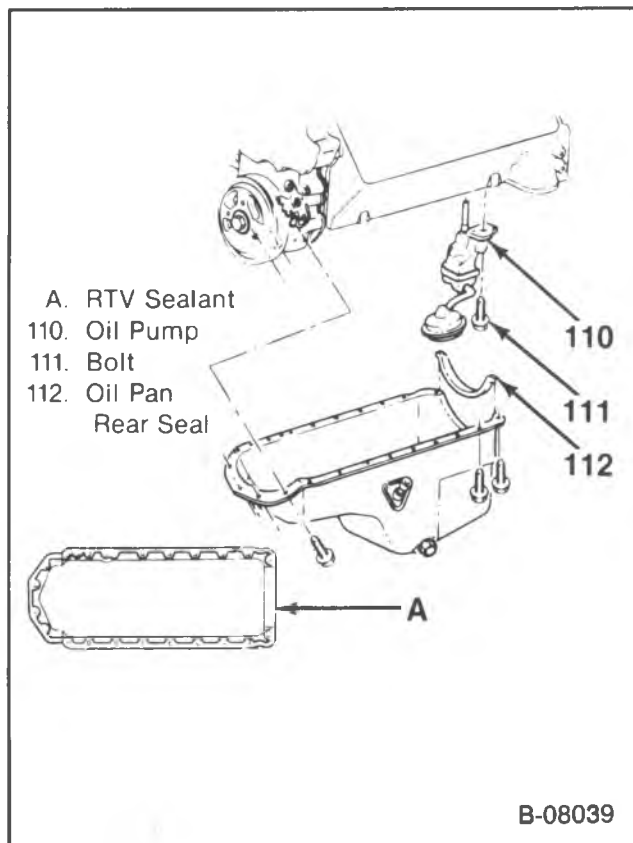

Figure 22 — Oil Pan and Oil Pump
Install or Connect (Figures 22, 36, and 37)
- Apply a 5 mm (3/16-inch) bead of RTV sealant (GM part number 1052915 or equivalent) to the oil pan sealing surface, inboard of the bolt holes (figure 22). The sealer must be wet to the touch when the oil pan is installed.
Remove or Disconnect (Figure 22)
Install or Connect (Figure 22)